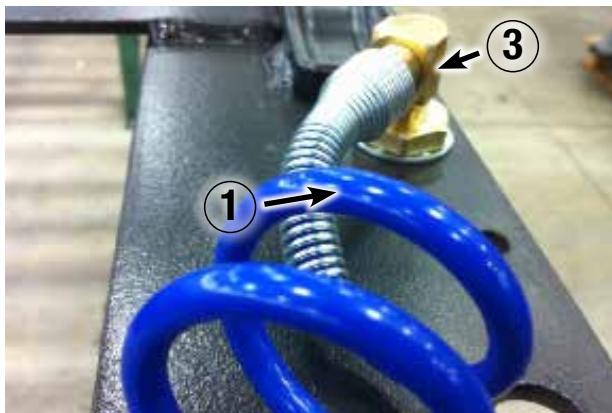

Figure 4: 90° Air line coil screwed into 90° elbow
4. Screw the air line coil (Item 1) into the 90° street elbow (Item 3) as shown in Figure 4 (Next page).